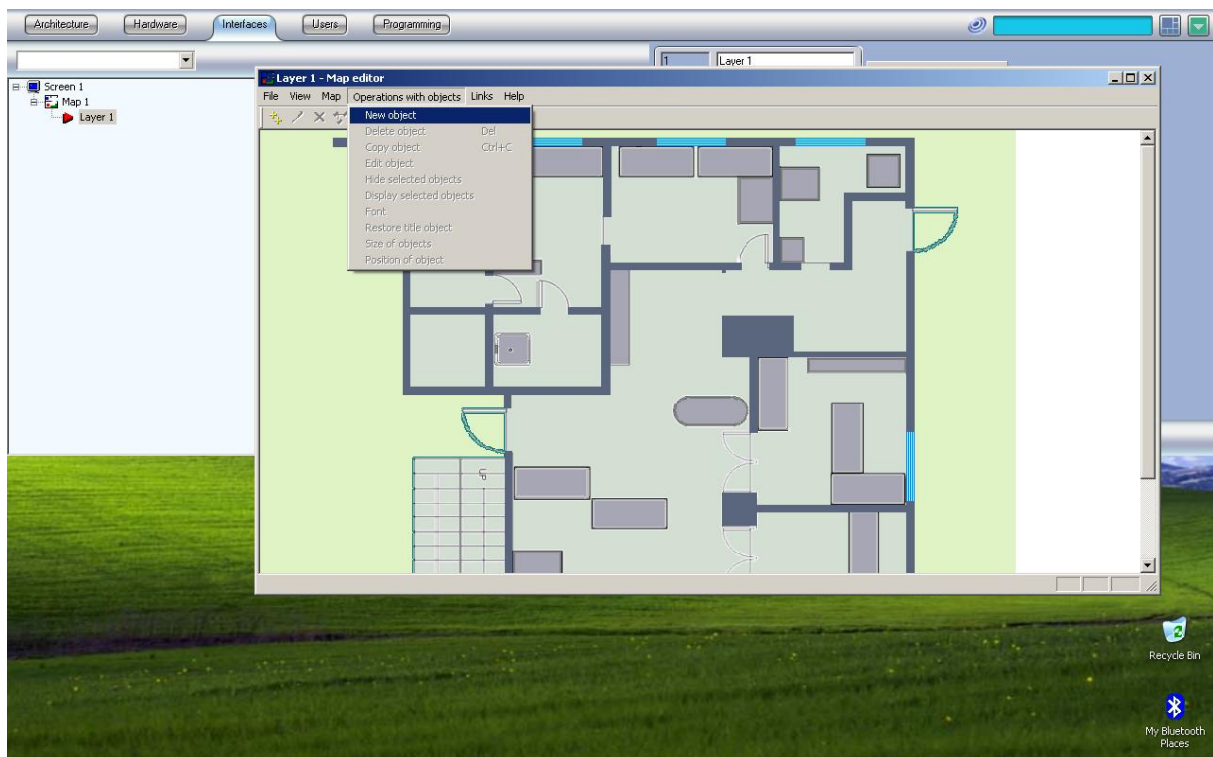
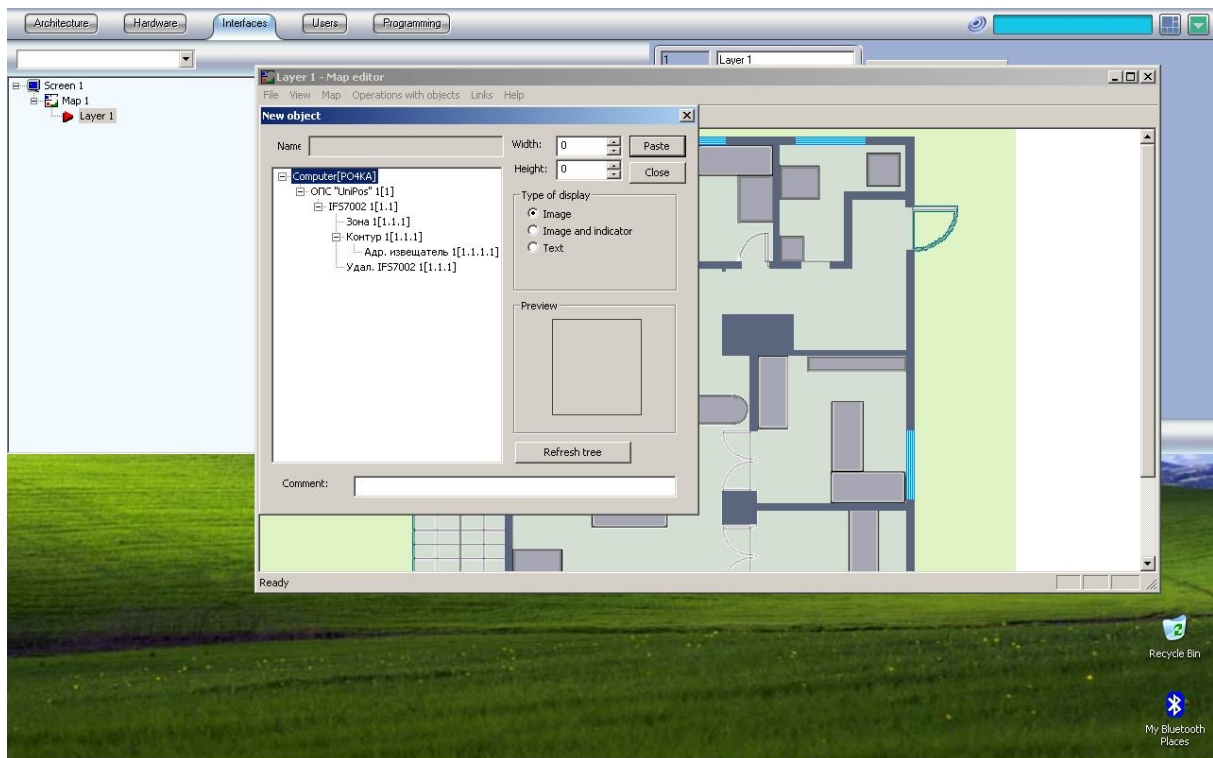

fig.23
fig.24
6) The fire alarm panels and devices can be positioned from menu “Operations with objects → New object” (fig. 23). Then the window “New object” appears (fig. 24).